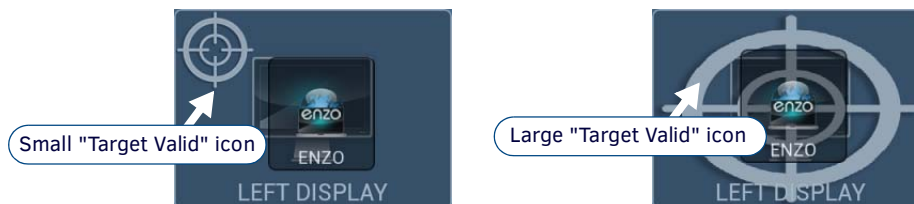

FIG. 296 Target Valid Icons (Small/Large)
- The SMALL ICONS button will toggle the "valid target" and "invalid target" icons (on the Display buttons) from small icons to large icons (FIG. 296):